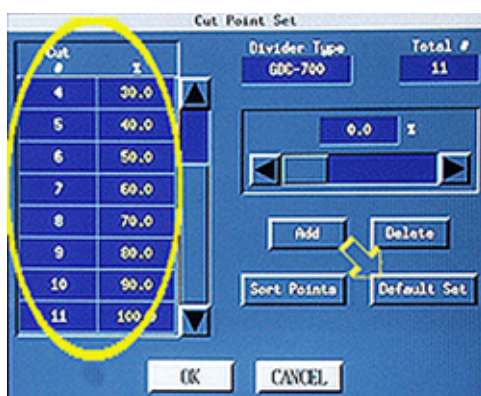

Figure 9
- 116 On the "Cut Point Set" panel, verify that the default set is selected. The default set is; Cut #1 = 0, Cut #2 = 10.0, Cut #3 = 20.0 and increasing by 10 percent each cut to Cut #11 = 100.0. See the circle in Figure 9.
If the default set is not selected, click on the "Default Set" button. See the arrow in Figure 9. At the bottom of the "Cut Point Set" panel, click on "OK."